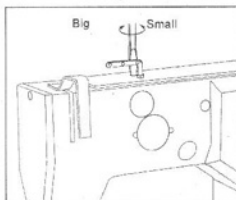

Fig. 15
23. The presser foot pressure adjustment (Fig.15)
- 2) Adjustment as shown in Fig. 15.